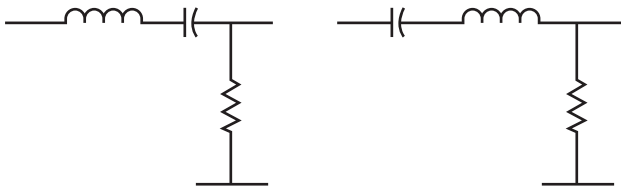

FIGURE 7.2
You can combine a capacitor and an inductor in series with a resistor to form voltage divider circuits, such as the two circuits shown in Figure 7.2. A circuit that contains resistance (R), inductance (L), and capacitance (C) is referred to as an RLC circuit. Although the order of the capacitor and inductor differs in the two circuits shown in Figure 7.2, they have the same effect on electrical signals.
When you apply an AC signal to the circuits in Figure 7.2, both the inductor's and the capacitor's reactance value depends on the frequency.
You can calculate the impedance of the RLC circuits shown in Figure 7.2 by using the following formula:
Calculate the net reactance and impedance for an RLC series circuit, such as those shown in Figure 7.2, with the following values:
3 Calculate the net reactance and impedance for an RLC series circuit, such as those shown in Figure 7.2, using the following values:
4 Calculate the net reactance and impedance for an RLC series circuit, such as those shown in Figure 7.2, using the values in the following questions.